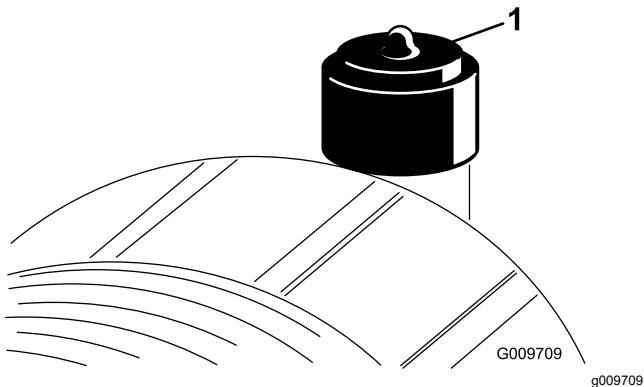

Figure 41
Service the air-cleaner filter only when the service indicator (Figure 41) requires it. Changing the air filter before it is necessary only increases the chance of dirt entering the engine when you remove the filter.
2. Reset the indicator (Figure 41) if it shows red.